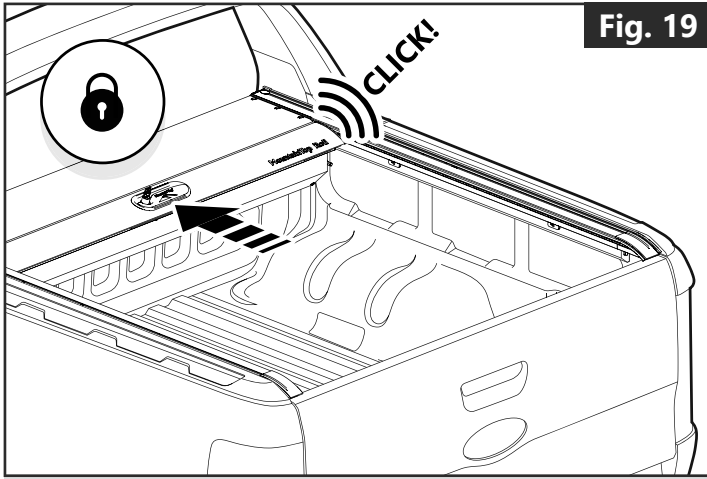

Fig. 19
- When the Roll cover is fully opened, a lock activator is automatically triggered, engaging the locking system. (**Fig.19**)